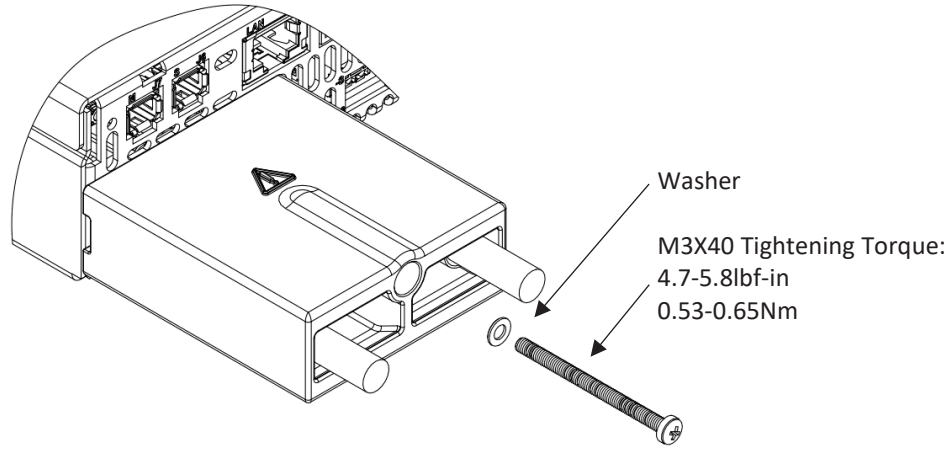

Figure 4-47: Fixing Bus Bars Cover to the Rear Panel
- 4. Fix the Bus bar cover to the rear panel of the power supply using M3X40 Sems screw from the accessories kit, as shown in Figure 4-47.